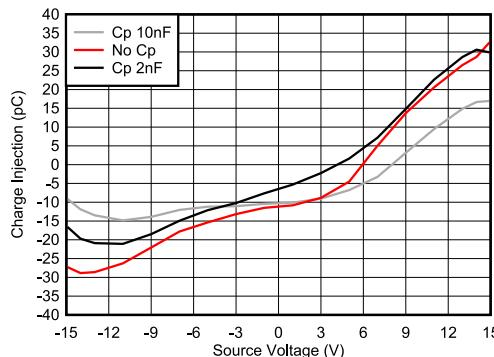

図 7-2. Charge Injection Compensation
The TMUX7219 contains specialized architecture to reduce charge injection on the source (Sx). To further reduce charge injection in a sensitive application, a compensation capacitor (Cp) can be added on the drain (D). This will ensure that excess charge from the switch transition will be pushed into the compensation capacitor on the drain (D) instead of the source (Sx). As a general rule, Cp should be 20× larger than the equivalent load capacitance on the source (Sx). **図 7-2** shows charge injection variation with source voltage with different compensation capacitors on the drain side.